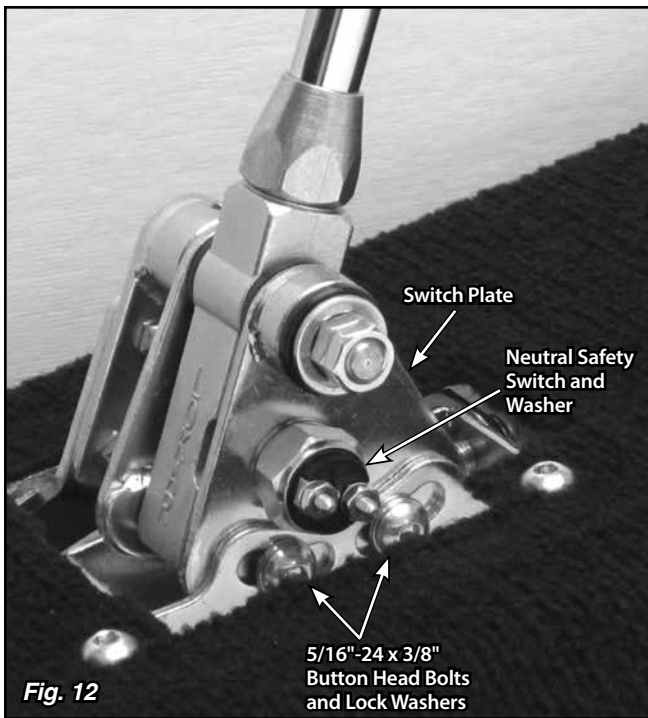

Fig. 12
**Step 15:** Remove the neutral safety switch and washer (**Fig. 12**) from the right side of the shifter using a 7/8" wrench or socket.
**Step 16:** Loosen, but do not remove, the two 5/16"-24 x 3/8" button head bolts that attach the **right** side of the floor mount mounting bracket to the switch plate (the bolts are in curved, slotted holes). **Fig. 12**